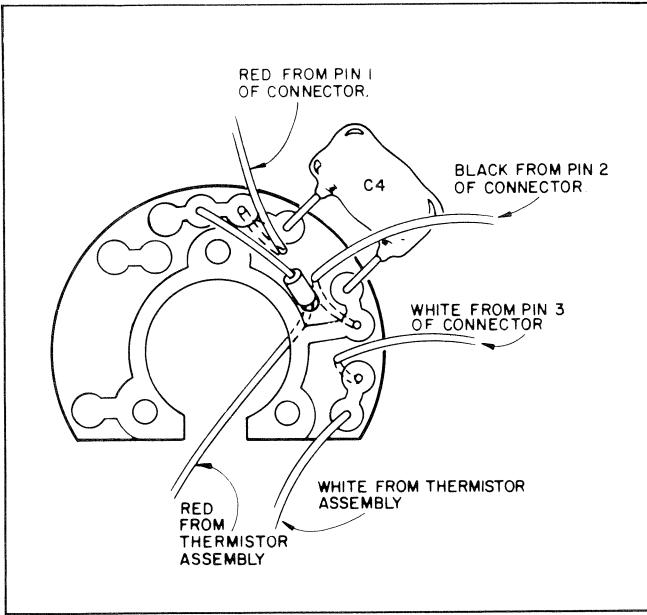
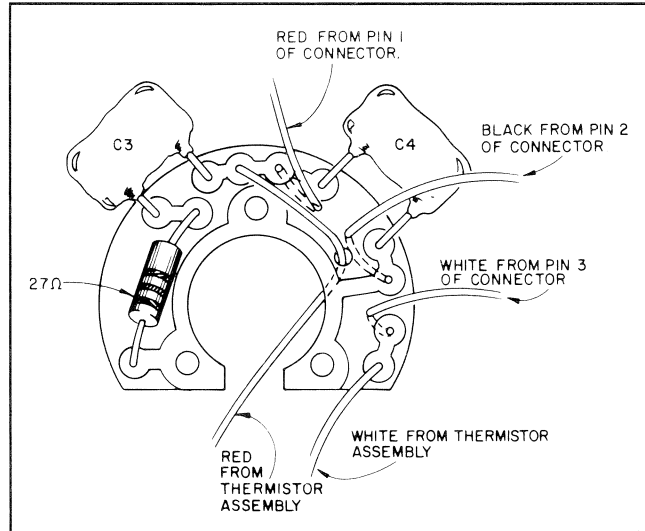

Figure 10. HP Model 478A Printed Circuit Assy Wiring
Figure A-9. HP Model 478A Printed Circuit Assembly Wiring (P/O Change B)
a. Referring to Figure 10, connect the three wires from receptacle connector to printed circuit assembly.
c. Pass the red wire from the thermistor assembly through the hole indicated in Figure 10. Do not connect to printed circuit assembly at this time.
Page 10, Figure 10:
Replace Figure 10 with Figure A-9.